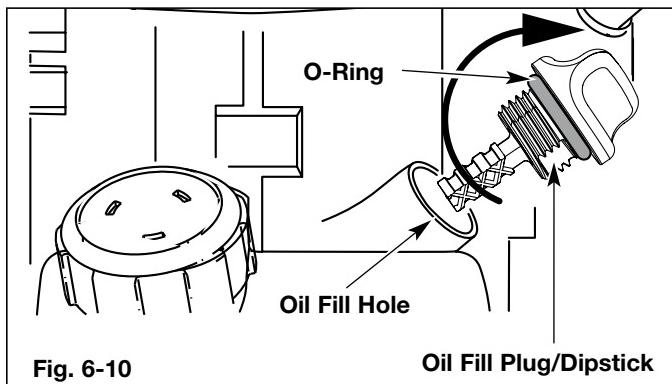

Fig. 6-10
6. If the level is low, add a small amount of oil to the oil fill hole and recheck (Fig. 6-10). Repeat until the oil level reaches the top of the dipstick.
NOTE: Make sure the O-ring is in place on the oil fill plug/dipstick when checking and changing the oil (Fig. 6-10).